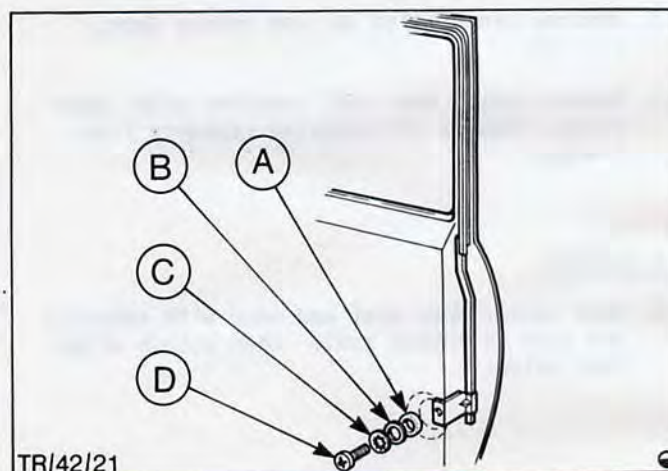

Fig.103. Guide rail and holder.
24. Fit window guide, Fig.103.